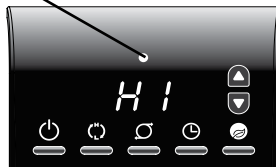

Figure 1
6. Upon turning the Heater on, the unit will be in HIGH heat (1500 Watts) (**Figure 1**).